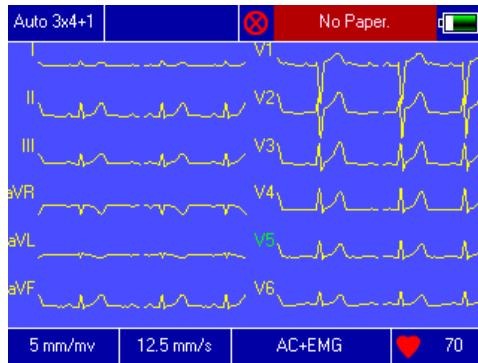

Figure 6-2 Lack of paper demand
- 6.1.3 If the recording paper runs out during recording, the device will stop printing automatically, and the screen will display a paper shortage warning as shown in Figure 6-2.